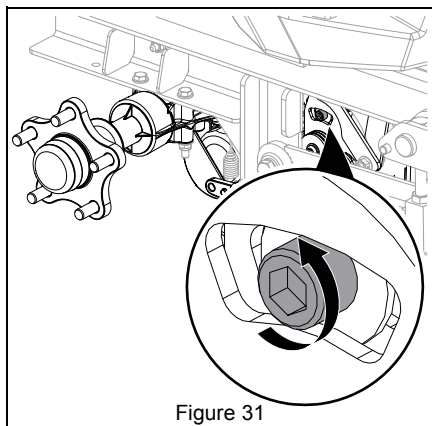

Figure 31
1. Loosen the return-to-neutral screw on the transaxle. See Figure 31.